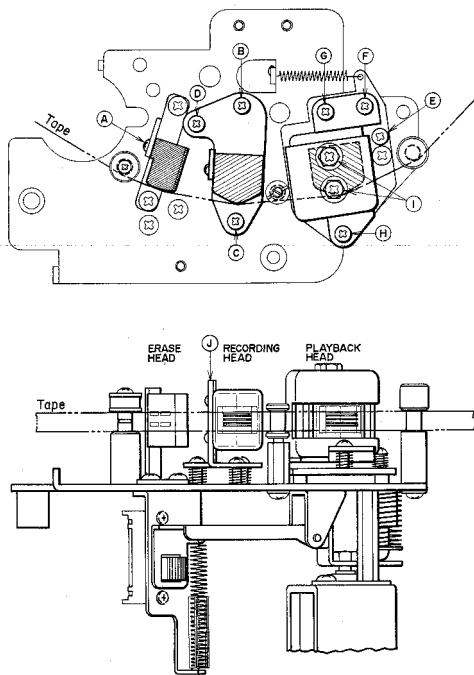

Fig. 19
At Playback mode, loosen screws (A) shown in Fig. 19 and adjust head height so that the upper edge of the tape is about 0.1 mm lower than the upper edge of the left channel erase head core.
At Playback mode adjust recording head height by turning screws (B) (C) and (D) shown in Fig. 19 to left and right until the upper edge of the tape is the same height as the upper edge of the left channel recording head core.
- a) At Forward Playback mode, adjust playback head height by turning screws (F) (G) and (H) shown in Fig. 19 to left and right until the upper edge of the tape is the same height as the upper edge of the left channel playback head core.
- b) At Reverse Playback mode, adjust playback head height by turning screw (E) shown in Fig. 19 to left and right until the lower edge of the tape is the same height as the lower edge of the right channel playback head core.
- e) At Forward Playback mode, turn Azimuth Alignment Screw (F) shown in Fig. 19 to obtain maximum line output level on both channels.
- f) After the adjustment in Item e) above has been completed, loosen screws (I) shown in Fig. 19 and move the head gap side of the playback head to left and right. When tension is applied to the supply reel side and the line output level of both channels do not fluctuate, (maximum allowable fluctuation within $+0.5/-0$ dB) fix screws (I) to maintain this condition.
- d) At recording mode, turn Azimuth Alignment Adjustment Screw (D) shown in Fig. 19 to left and right until the line output level of both channels is maximum and does not fluctuate.
- e) After completing adjustment in Item d) above, adjust gap side of recording head by bending installation angle (J) shown in Fig. 19 to left and right until the line output level of both channels do not fluctuate (maximum allowable fluctuation within $+0.5/-0$ dB) when tension is applied to the supply reel side.